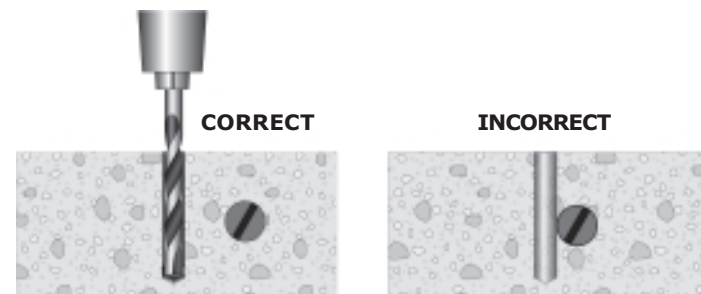

Figure 133: Drilling into concrete with rebar.
-  **If you strike steel reinforcement when drilling, you must have the damage inspected. As directed, fill the hole with approved grout and select a new location according to minimum spacing requirements. Drill a new hole (see Figure 133, page 99).**